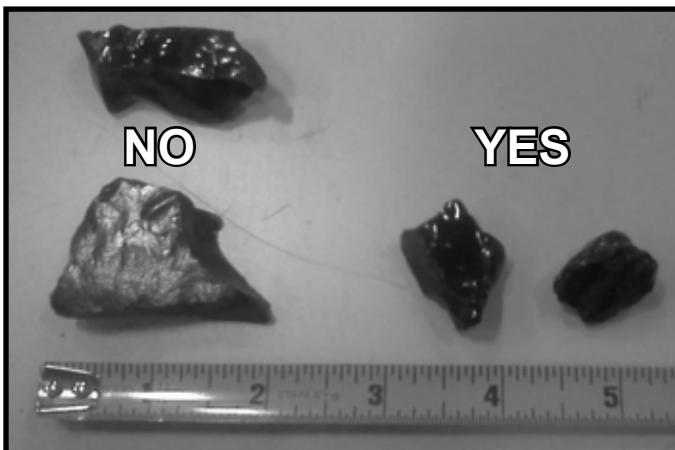

Figure 1. Selecting Flat Media for Pilot Cover.
1. Choose 7 - 10 round pieces of media approximately 1/2 inch in size and set them aside. These will be used later to conceal the pilot end of the burner. Reference Figure 1 for choosing round pieces of glass.